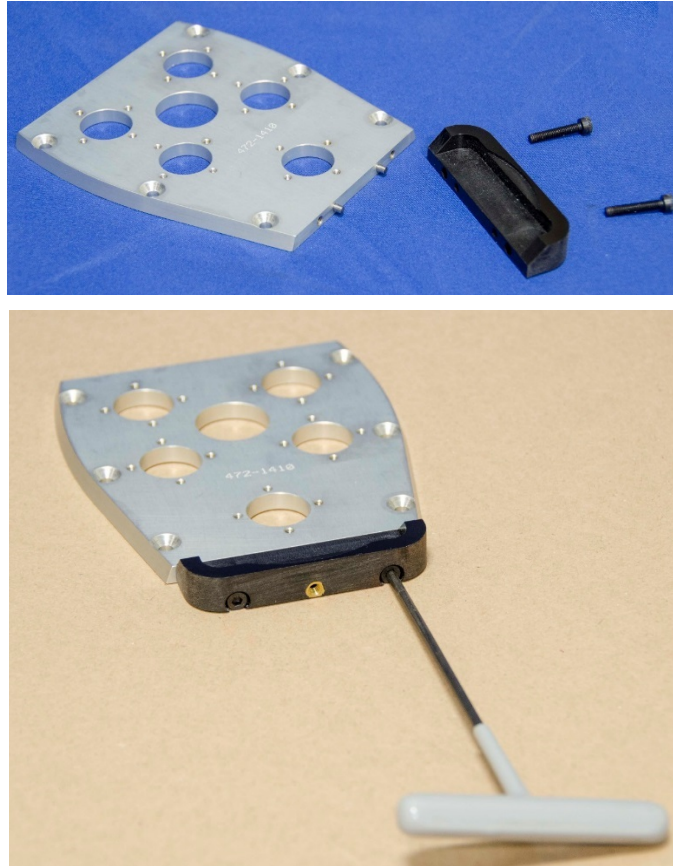

Figure 3-7. Assemble the chin guard to the face plate
- 3.2.2.5 Attach the Chin Guard (472-1411) to the Face Plate (472-1410) with the angled side downwards and out using two M4 x 0.7 x 22 SHCS (Figure 3-7).